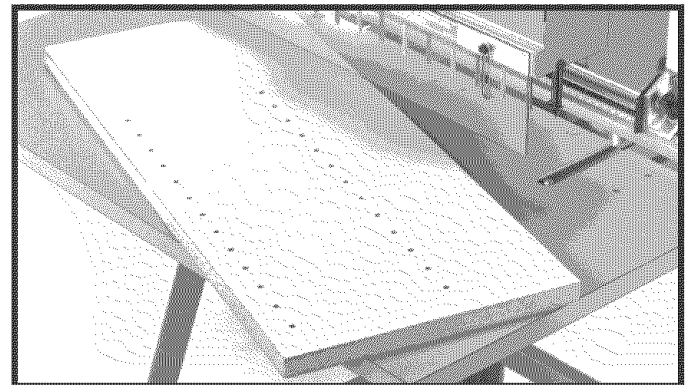

Fig. 62
4. Figure 62 illustrates the two sets of holes bored into the workpiece using both stops.